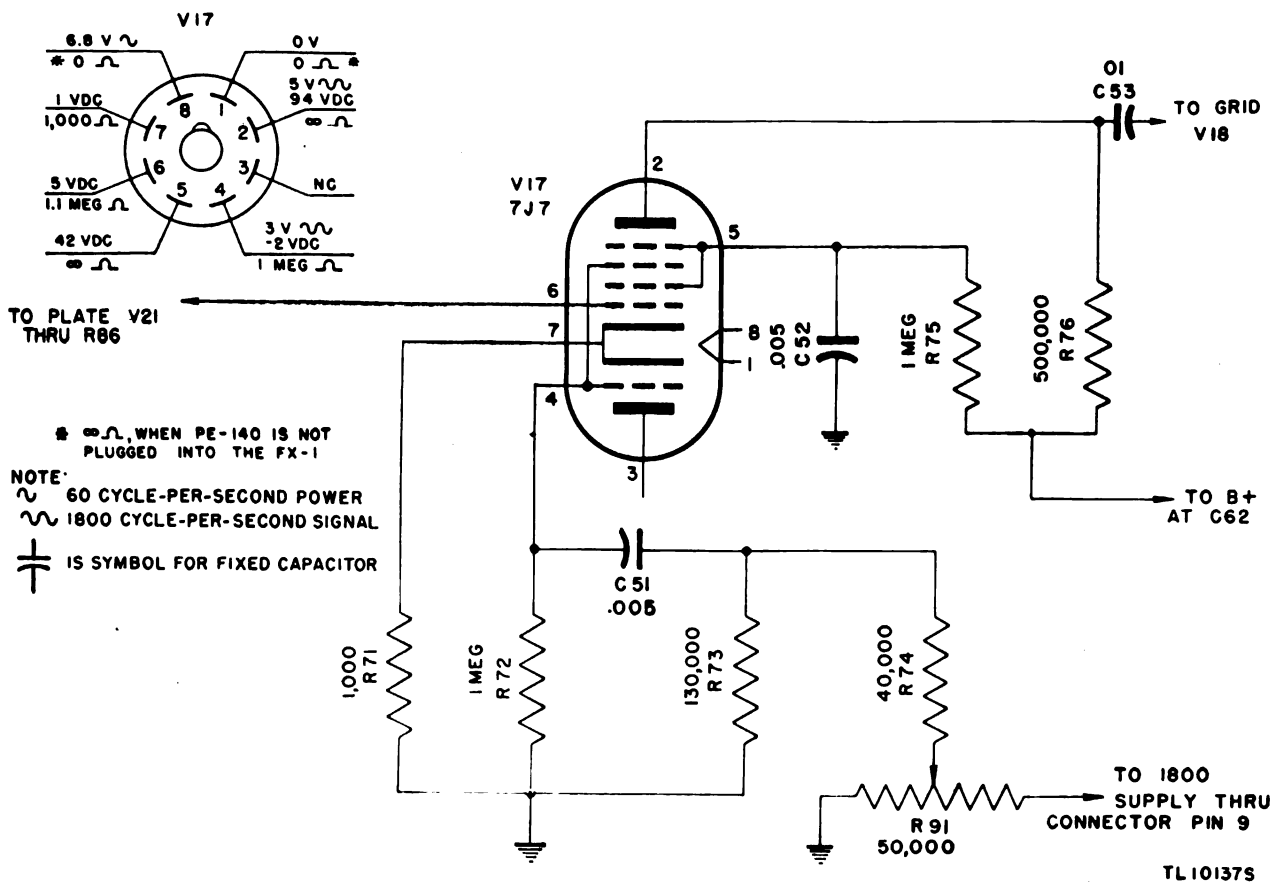

Figure 32. Exciter lamp supply, input stage.
**67. Exciter Lamp Supply, Input Stage** (fig. 32)